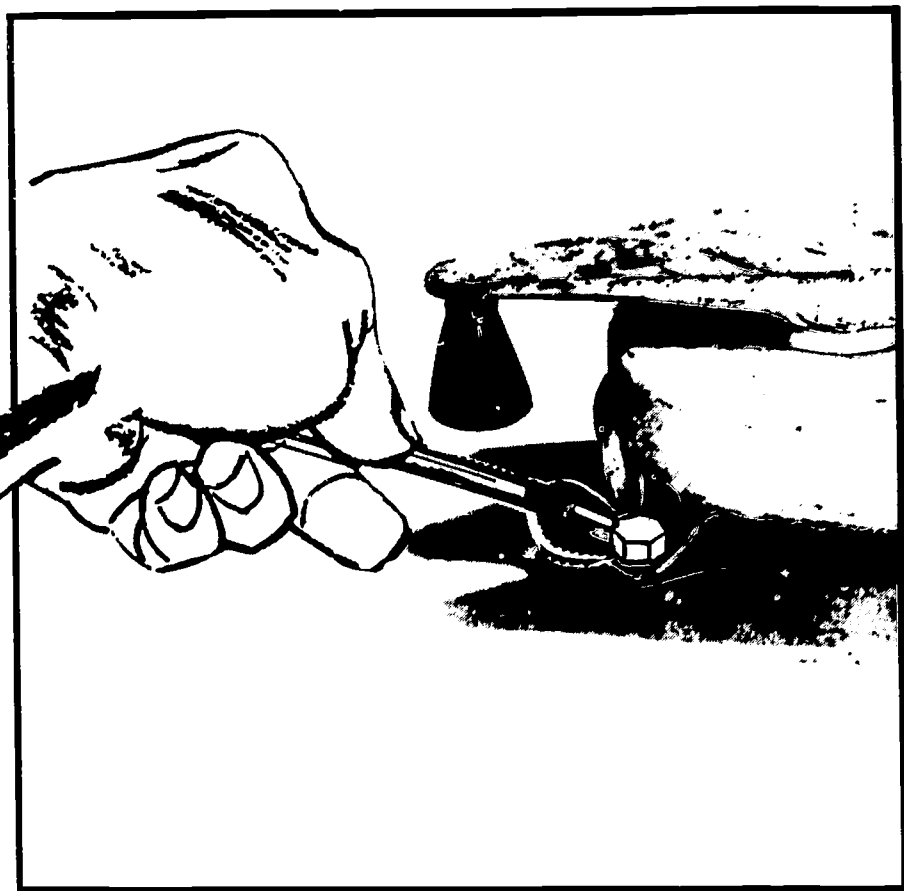

FIGURE 43. Removing the windup-starter assembly from the engine.
2. *Remove the starter assembly from the engine (Figure 43).*